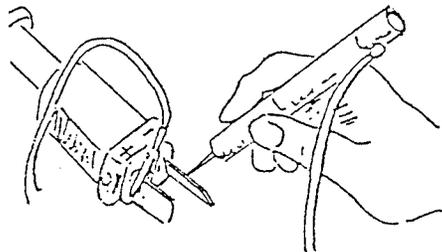

FIGURE 3
- (b) If the circuit in Figure 2 is complete, reverse test light leads as shown in Figure 3. CIRCUIT SHOULD NOT BE COMPLETE. If circuit is complete, check DC cord for a "short" between the two wires. More probably, one or both diodes have "shorted". Refer to "Fuse Link Blowing" part (b) for continuity test of diodes.
- (c) If (a) Figure 2 and (b) Figure 3 check good, assume the capacitor is shorted. Remove one wire from a capacitor terminal and place continuity tester clip to one terminal and probe to other. If circuit is complete, capacitor is "shorted" and must be replaced.